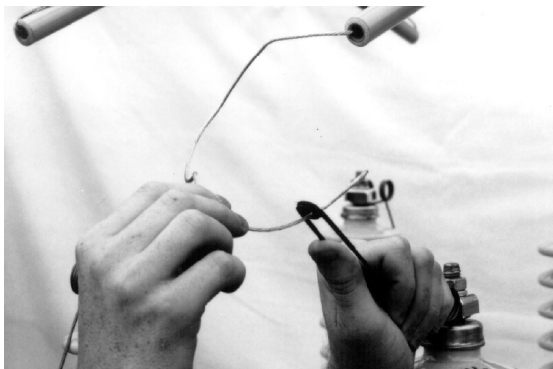

Figure 14.
- C. Thread the fuse link lead wire through the eye of the ejector spring as shown in Figure 14. It is important the lead wire be routed over the top of the eye then back through the eye as displayed. Pull the eye of the ejector spring to a point where it touches (or is directly beneath) the end of the fuse tube.